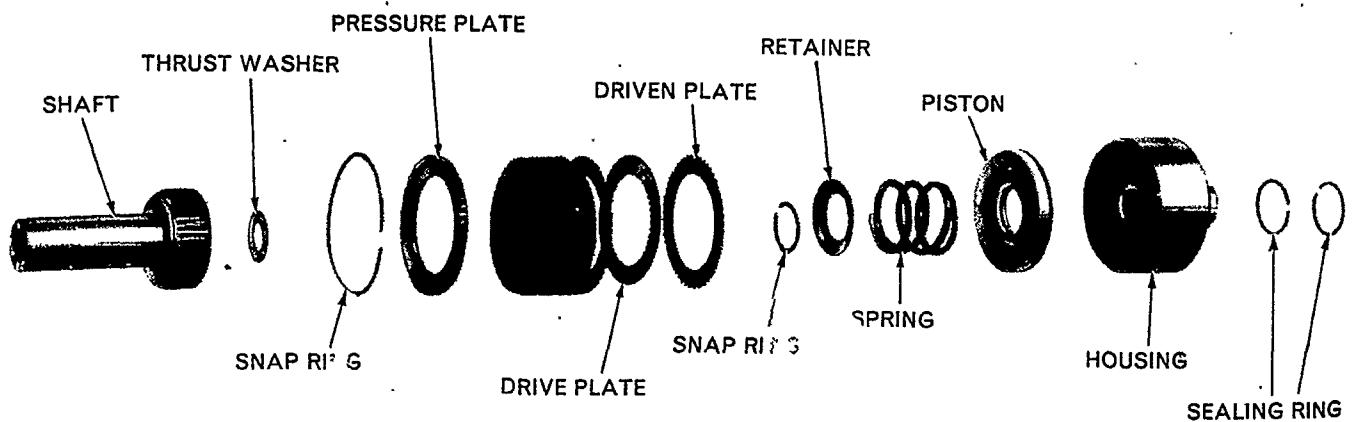

Figure 16
1. Remove the snap ring locating the pressure plate, Figure 16.